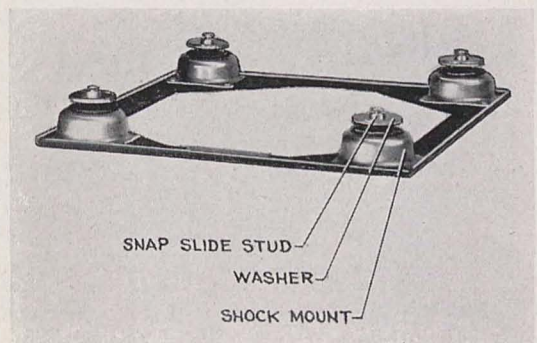

Figure 4—Mounting FT-145-A
b. **Mounting FT-145-A.**—This shock mounting for Radio Compass Unit BC-310-A is shown in Figure 4. The aluminum base has four shock absorbers, carrying snapslide studs, mounted in each corner. For Outline Dimensional Drawing and Drilling Diagram see Figure 36, Appendix.